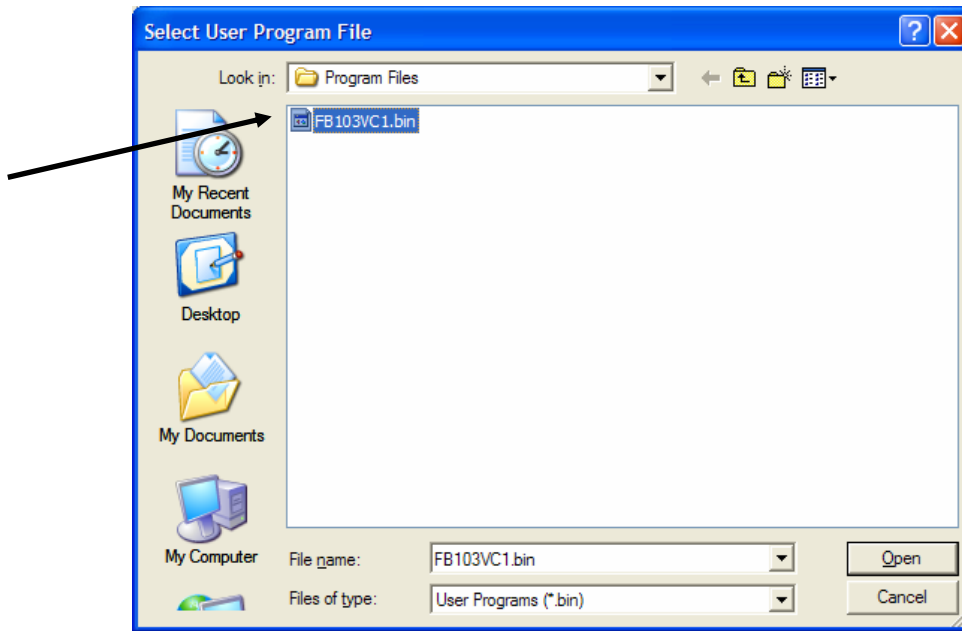

Figure 2. Select User Program File
5. Click **Browse** in the Download User Program File frame. The Select User Program File screen displays (see Figure 2).
6. Select the path and user program file to download from the CD-ROM. (Program files are typically located in the Program Files folder on the CD-ROM). As Figure 2 shows, the screen lists all valid user program files with the .BIN extension: